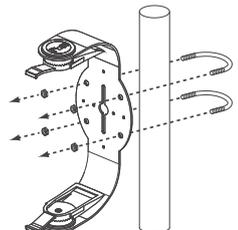

FIGURE 5:
3. If the installation requires that the speaker be mounted on a pole you can attach the FastMount brackets to the pole using **2.5" U-bolts (not included)** (see figure 5).